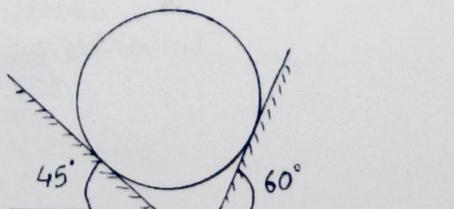

Fig 2.107
- 6) A cylinder with 1500N weight is resting in an unsymmetrical smooth groove as shown in fig 2.107. Determine the reactions at the points of contacts. (Ans: 1344.86N, 1098.07N)